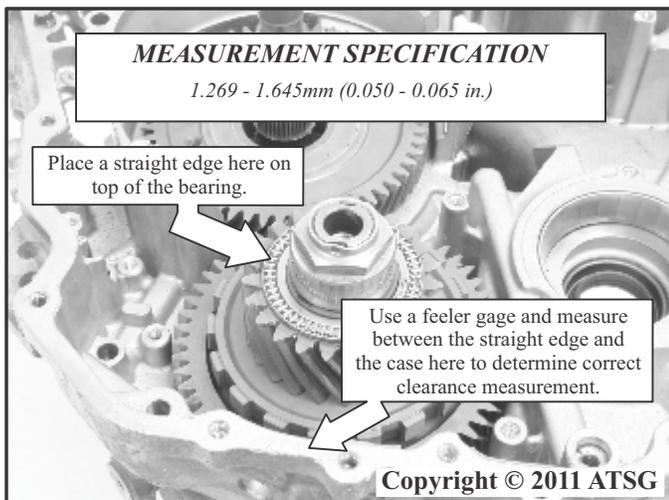

Figure 229
46. Place a straight edge across the transfer drive gear bearing and using a feeler gage, take a clearance measurement between the straight edge and the case. Refer to Figure 229.